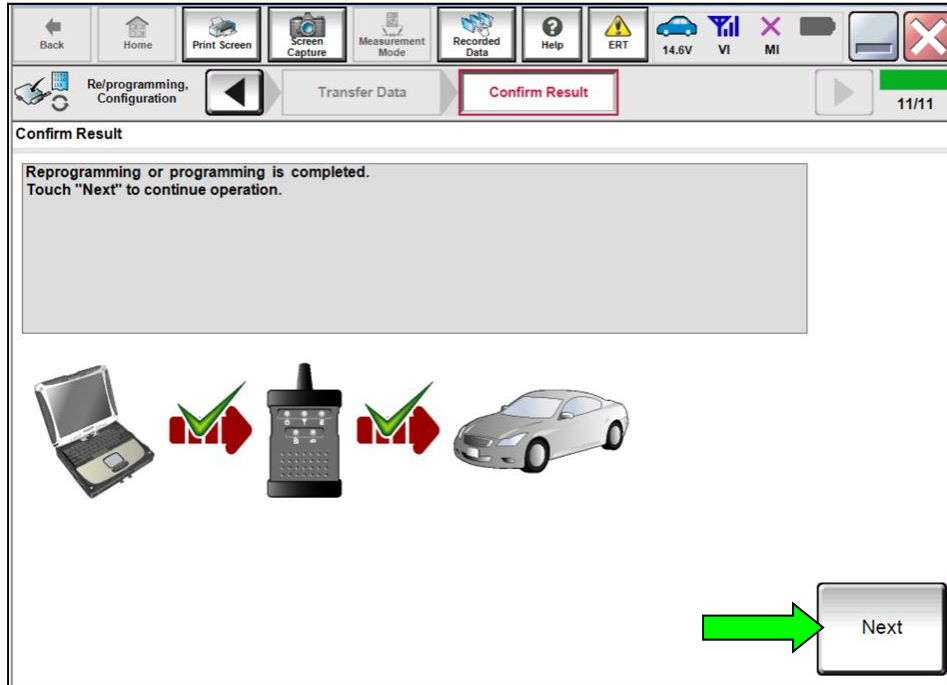

Figure 27
49. When the screen in Figure 27 displays, select **Next** (reprogramming is complete).
- If the screen in Figure 27 does not display (which indicates reprogramming did not complete), skip to **Control Unit Recovery** on page 23.